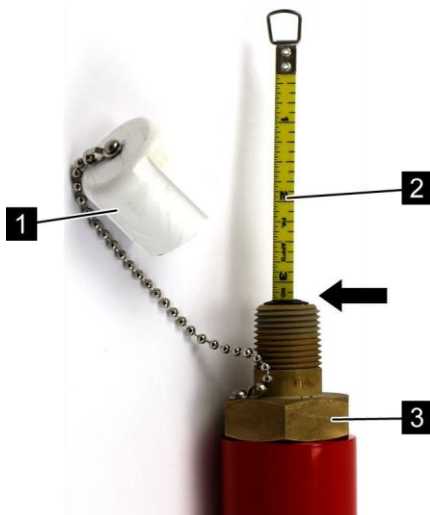

Fig. 183: Reading the liquid level
- **Do not unscrew the brass hexagon (Fig. 183/3) of the liquid level indicator.**
1. ➤ Unscrew the plastic protective cap (Fig. 183/1).
2. ➤ Pull tape measure (Fig. 183/2) out of the liquid level indicator to the stop.
4. ➤ Read the liquid level on the measuring tape above the threaded union (Fig. 183/arrow).
5. ➤ Detach the measuring tape (Fig. 183/2) from the float with rapid hand movement, and lower it completely into the liquid level indicator.
6. ➤ Screw on the plastic protective cap (Fig. 183/1).